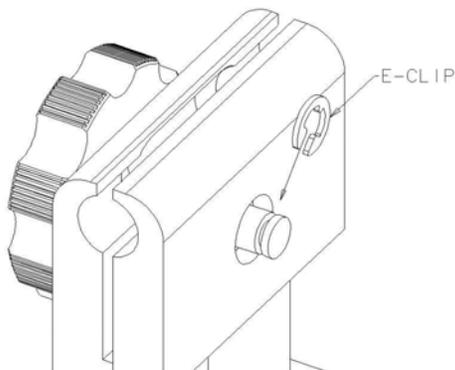

Figure 1
1. Remove stock Visor. Remove visor channel by removing (5) mounting screws.
2. Install each Monorail using (3) #8-32 x 3/4 screws and the (3) #8 washers that are provided. Use a long shank screwdriver to prevent damage to the monorail. Do not tighten the fasteners completely at this time.
4. Tighten (3) mounting screws. Fill unused channel mounting locations with #8-32 x 1/2 screws and washers provided
6. Install supplied e-clip into slot on rear of thumb knob, see Figure 1.